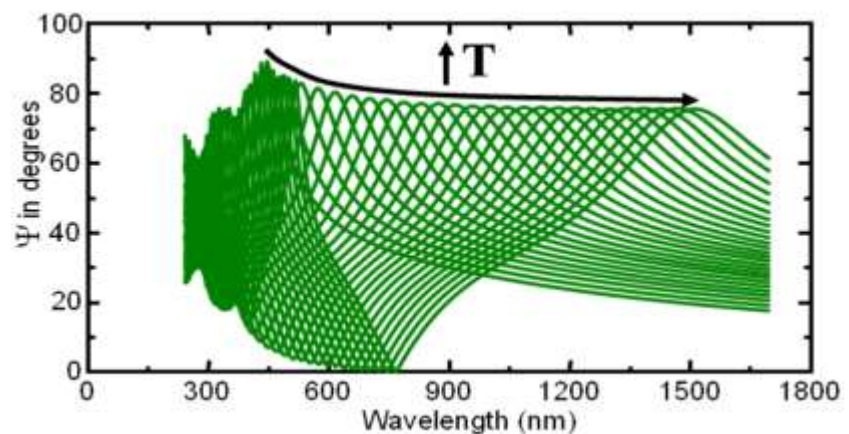

Figure 9-4. Interference oscillations in SE data will shift as thickness increases.
The measured spectroscopic ellipsometry data provide information about the thickness based on the position and number of interference oscillations. Figure 9-4 shows the Psi curve for a series of thin SiO₂ films of different film thickness. As the thickness (T) increases, the interference oscillations shift toward longer wavelengths. In addition, the shape of the interference oscillations is dependent on the film index of refraction.